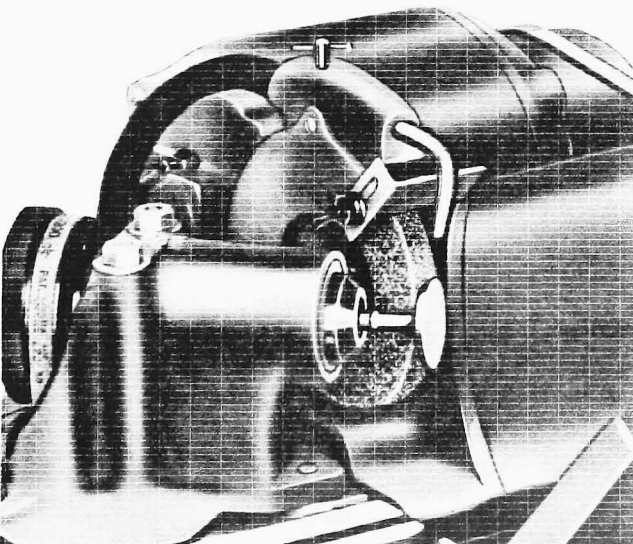

Fig. 11—Valve Refacing
(2) **REFACING VALVES.** Grind the valve face at a 45° angle on a valve refacing machine (fig. 11). Grind off only enough stock to remove pits or grooves from